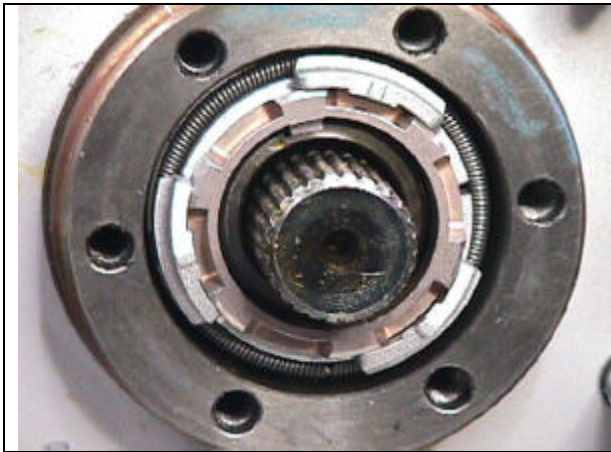
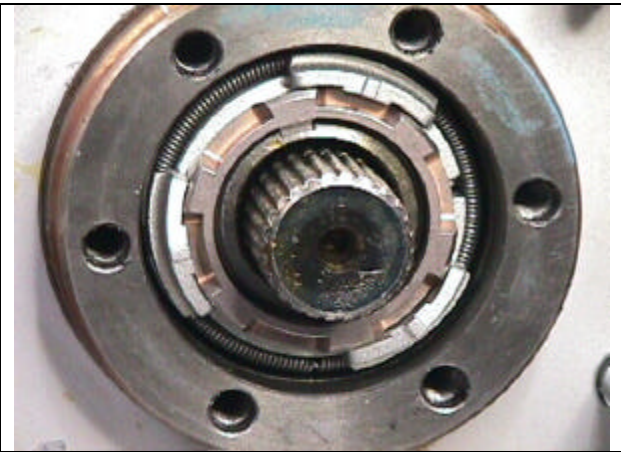

Figure 13
Figure 14
9. Install the camming assembly by aligning the two (2) keys on the camming assembly with the two (2) key slots on the spindle as shown in Figure 13. Tap the camming assembly onto the spindle nut as shown in Figure 14.